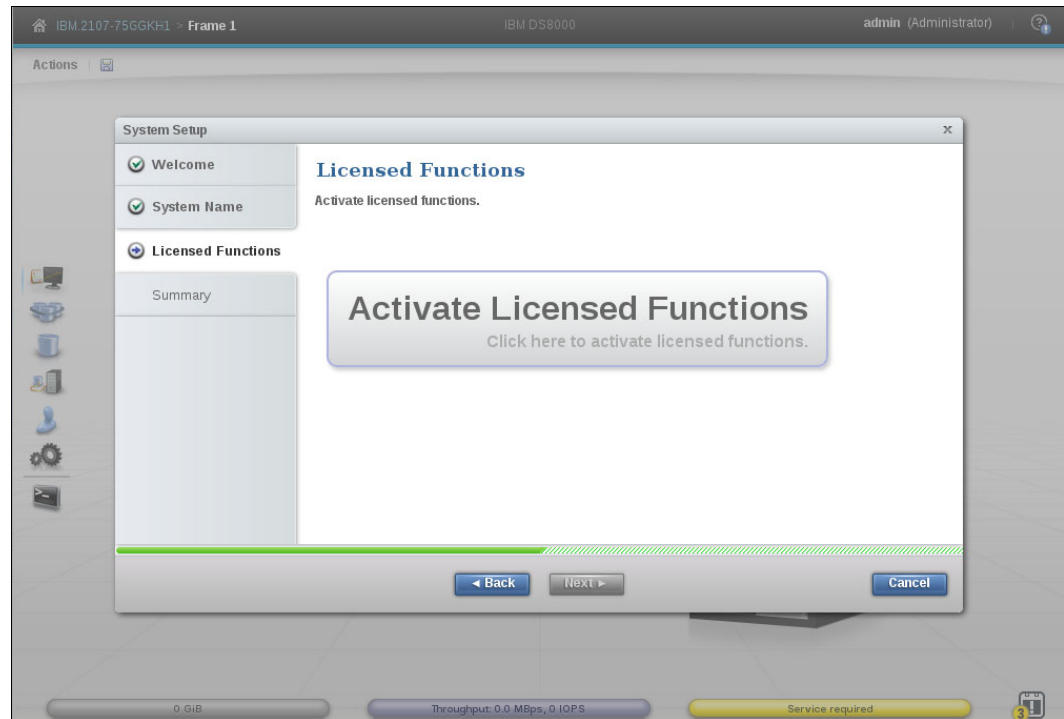
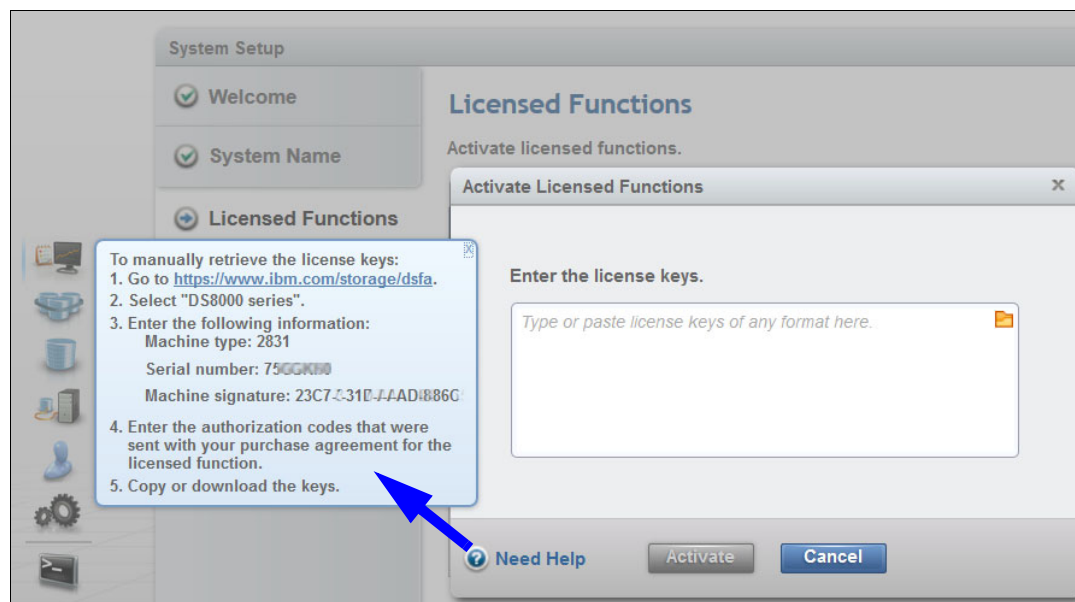

Figure 9-1 Activate Licensed Functions
Figure 9-2 Enter the license keys with help
3. If this machine is new, a System Setup wizard window opens automatically that guides you through the initial setup and configuration tasks, as shown in Figure 9-1.
4. Click **Activate Licensed Functions** (on Figure 9-1) to begin the guided procedure to acquire and activate your feature activation keys, as shown in Figure 9-2.
9. Click **Activate** to enter and activate your licensed keys, as shown in Figure 9-2 on page 230.